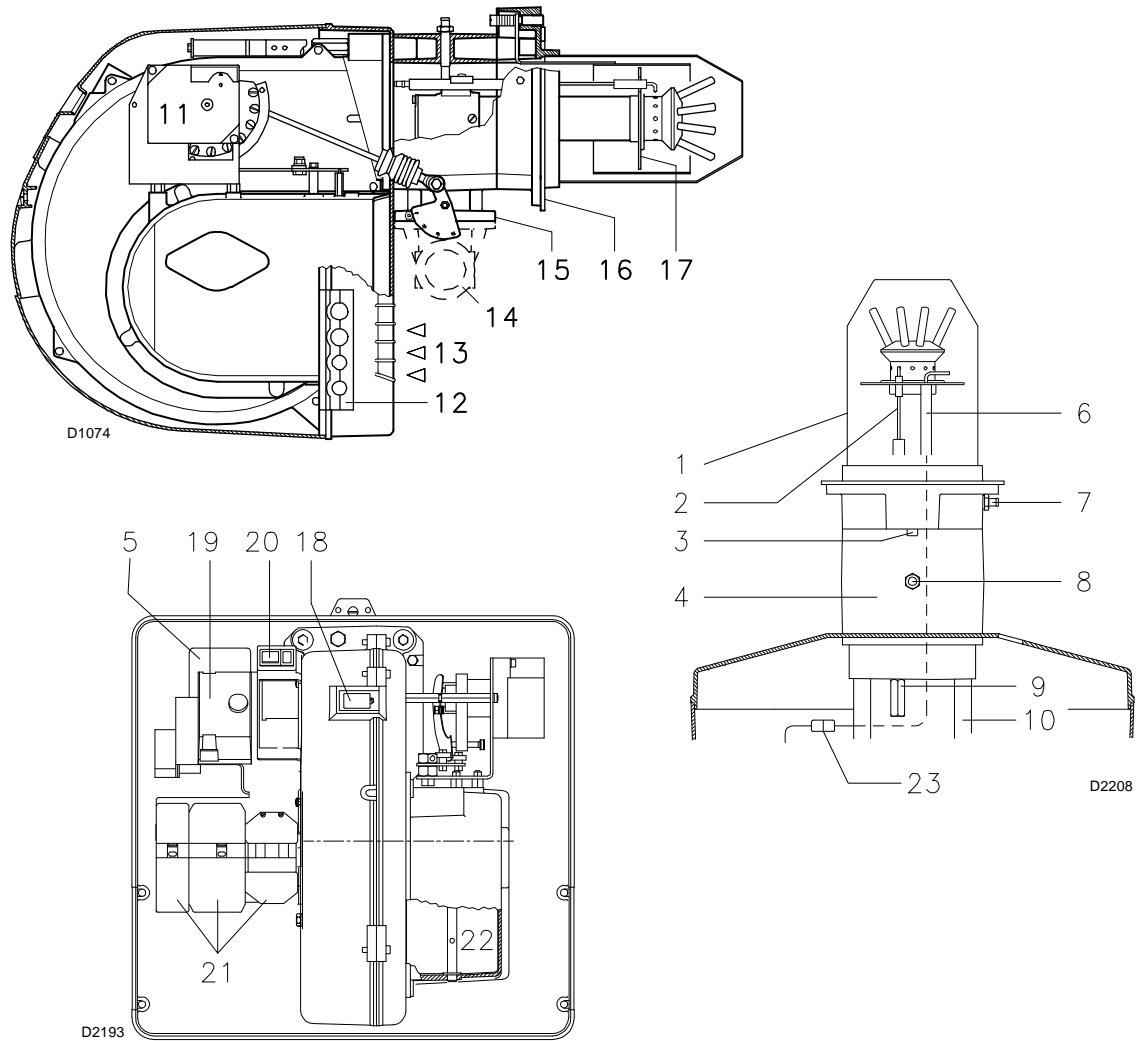

Fig. 6
- if the control box 19)(Fig. 6) push-button lights up, it indicates that the burner is in lockout. To reset, press the button.